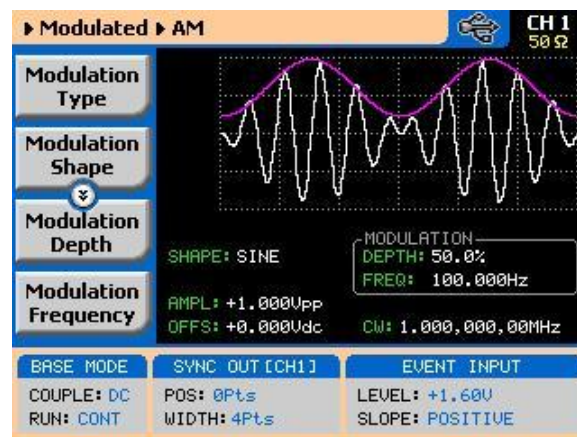

Figure 3-32: AM Menu
The AM function enables amplitude modulation of a carrier waveform (CW). The carrier waveform is modulated by an internal waveform, normally referred to as envelope waveform. The envelope waveform can be selected from sine, triangle square or ramp shapes. When AM is selected, the menus that are associated with AM become accessible. These are shown in *Figure 3-32*.